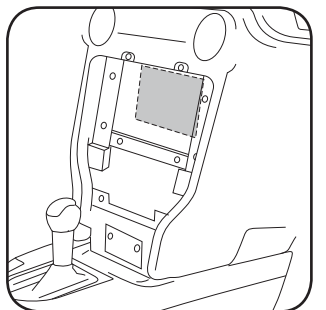

Fig. 1.9
11. Cut and remove back panel in radio cavity behind the screen. (Fig. 1.9)